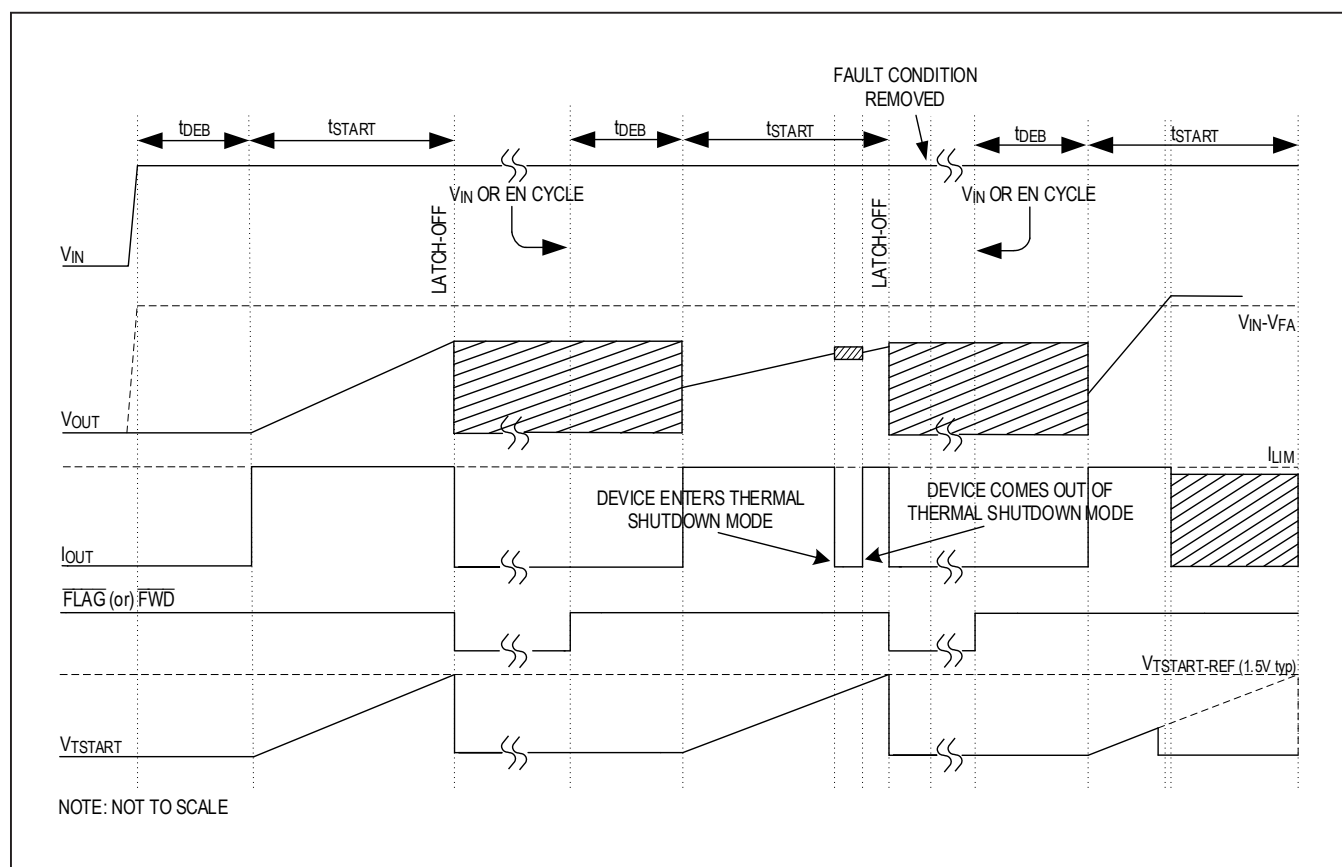

Figure 8. Startup Fault Timing Diagram in Latchoff Current-Limit Mode
In latchoff current-limit mode during startup, the device operates in continuous current-limit mode until t_{TSTART} . The timer t_{TSTART} resets if the output voltage V_{OUT} reaches $(V_{IN} - V_{FA})$ within t_{TSTART} and then the normal operation continues. If the overcurrent condition is present for longer than startup blanking time (t_{TSTART}), the output NFET Q2 is turned off and latched, the timer t_{TSTART} resets, and the \overline{FLAG} (or \overline{FWD}) pin asserts. To reset the device, either toggle the enable control signal (EN) or cycle the input voltage. Figure 8 depicts a typical startup behavior in latchoff current-limit mode.